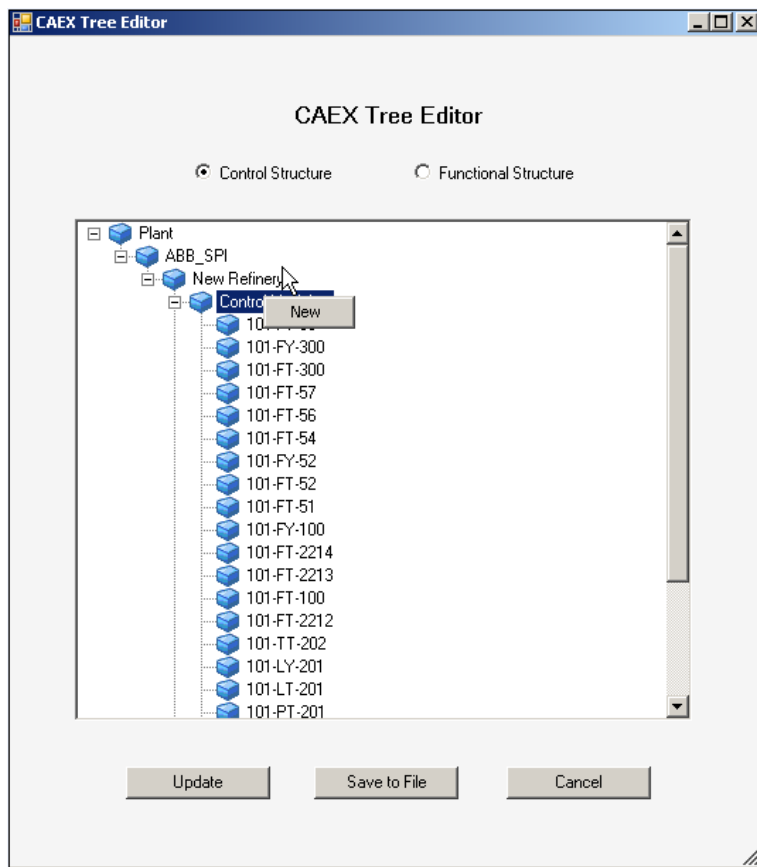

Figure 52. Insert New Node
1. Right-click on the parent of the desired node and select **New** from the drop-down context menu that appears (Figure 52).